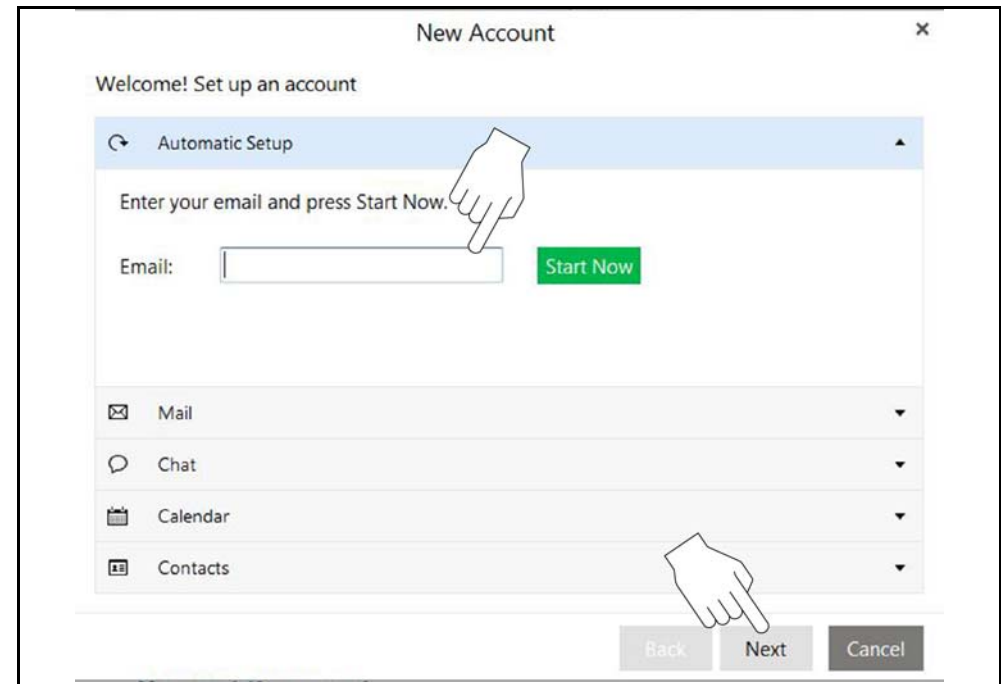

Figure 1-12
4. Enter your e-mail information as required (Figure 1-12).